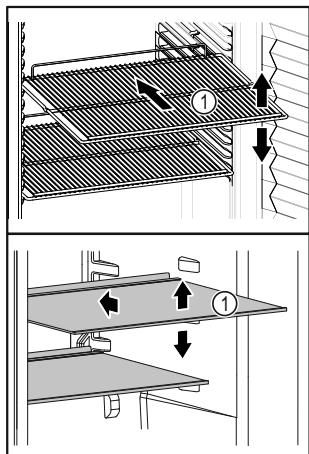

Fig. 88 Example illustration
- If shelves Fig. 88 (1) can be moved, adjust the shelves according to the height.